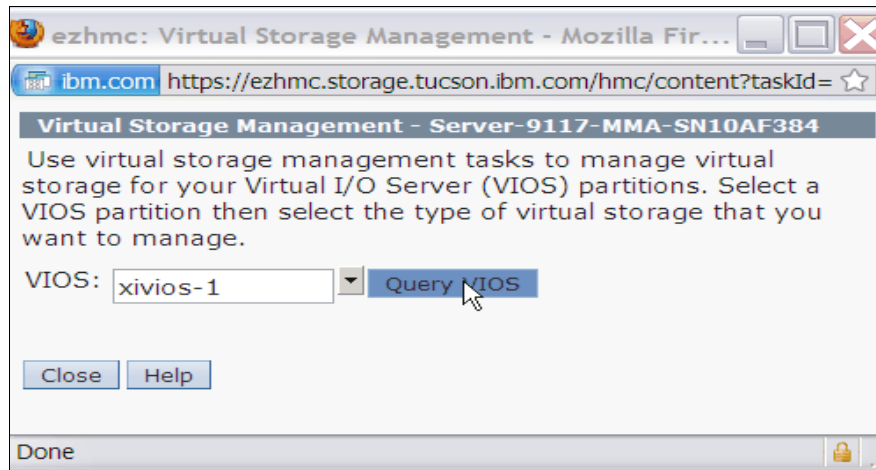

Figure 3-13 HMC: Clicking Query VIOS
3. In the Virtual Storage Management window (Figure 3-13), select the VIOS to which to assign volumes. Click **Query VIOS**.